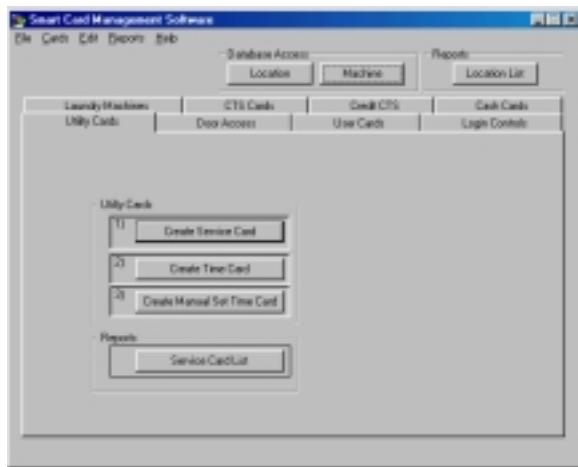

Figure 2.19 Utility Cards Manager
2.2.6.9. Utility Cards Manager (Figure 2.19)